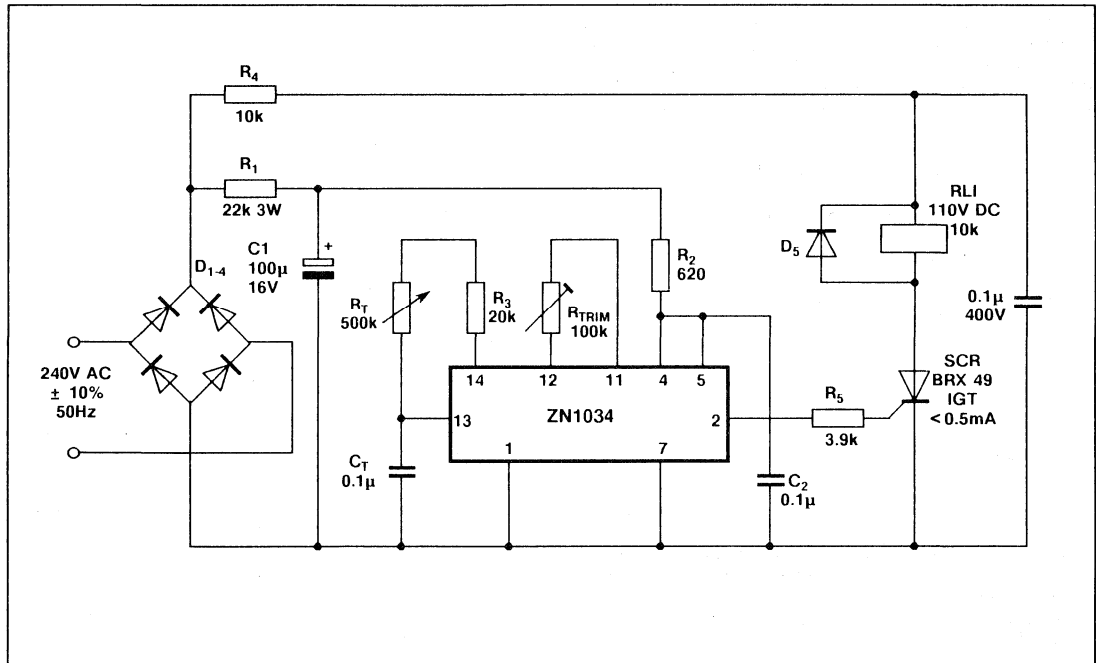

Fig. 27
Two types of interference, mains borne and electromagnetically radiated interference, can affect the operation of the timing circuit. In environments where such noise is encountered steps should be taken to reduce its effect on the timing circuit and the following notes should enable the circuit designer to avoid interference problems. The points discussed are illustrated by referring to a mains delay-to-on, plug-in module timer design, illustrated in Figs.27, 28, 29 and 30.
Negative spikes can be reduced by using a full diode bridge circuit, as in Fig.27 which rectifies the spikes as well as the AC supply, or a half bridge where an AC load is being driven and the timer ground cannot be separated from neutral. The dropping resistor R_1 , with C_1 , forms a low pass filter for mains smoothing and additional filtration is provided by R_2 and C_2 . These filters will also attenuate noise spikes. The shunt regulator in conjunction with the dropping resistors R_1 and R_2 provides considerable spike attenuation as well as DC regulation. The circuit of Fig.27 for example, has an attenuation of supply spikes of 15000:1 due to the regulator alone. When a 5V supply designed for TTL, or similar requirements is available and the shunt regulator is not connected, protection against interference is not usually necessary since the supply itself should be capable of suppressing mains borne interference.
i.e. 200kHz, pin 13 is sensitive to radiated high frequency interference. Mains Borne pulses can be equally troublesome if steps are not taken to isolate pin 13 from such interference. The method used in the design example of Fig.27 is effective against both EMI and Mains Borne noise. A ground plane is produced by leaving a large area of copper on the component side of a double sided PCB with clearance holes for the component connections. The ground pin (7) is connected to the ground plane and the ground side of components such as C_T and the decoupling capacitors are also connected directly to the ground plane. In this way the connections have a low impedance to pin 7 and the possibility of coupling interference pulses from the load or decoupling components into the oscillator circuit via common earth leads is reduced considerably. At the same time the printed circuit connections are screened from EMI.